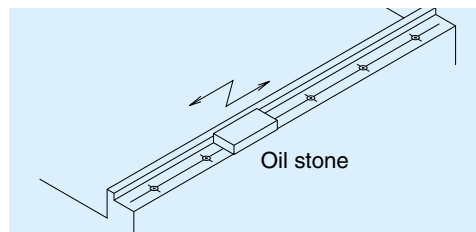

Fig. II-9-12
(3) Installation procedures
- For both methods, wipe off the rust preventive oil applied to the linear guide. Remove burrs and small bumps on the bed and table mounting face with an oilstone (Fig. II-9-12).